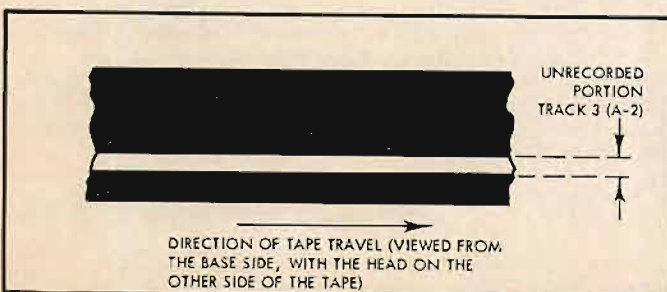

Fig. 10. Portion of RCA test tape No. 12-5-64T used for height alignment of four-track stereo tape heads.
1. *Test Tape.* RCA test tape No. 12-5-64T is illustrative of a tape containing a section—Part 1—specifically designed for height alignment of four-track heads. As shown in Fig. 10, the entire width of Part 1 of this tape is recorded except for a .043-inch band erased at the location of track 3, which is called A-2. The recorded signal is 1000 cps at 3.75 ips and 2000 cps at 7.5 ips. The instructions state: "In order to adjust the head assembly height, move the head up or down until the audible tone or the output meter reading on the A-2 track is at a null or minimum. Note that a head height either up or down from this proper position will cause an increase in signal level."